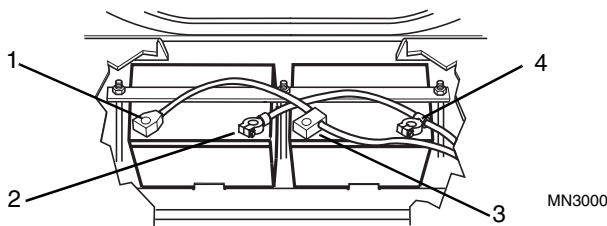

Figure 8-26 Battery Cable Connections
3. Clean all battery posts and cable connectors (Fig. 8-26, 1-4) on each battery cable.